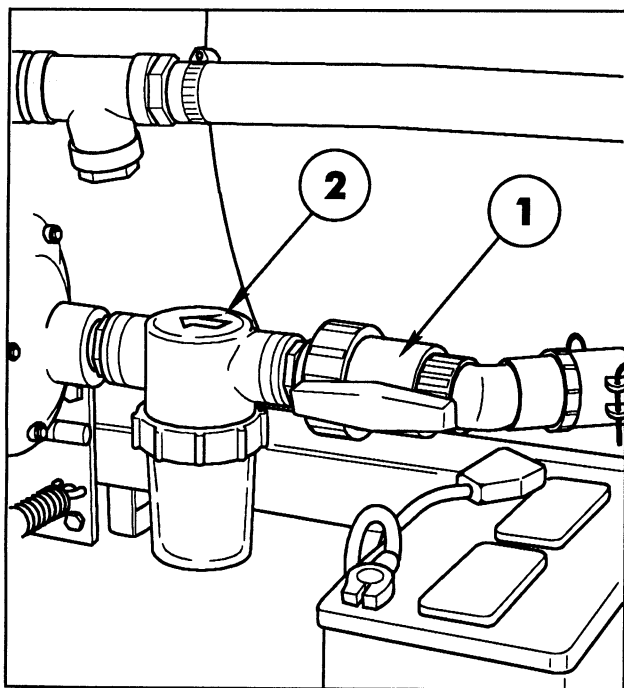

FIG. 5
1. Turn Tank Spigot to on position. See FIG. 5.